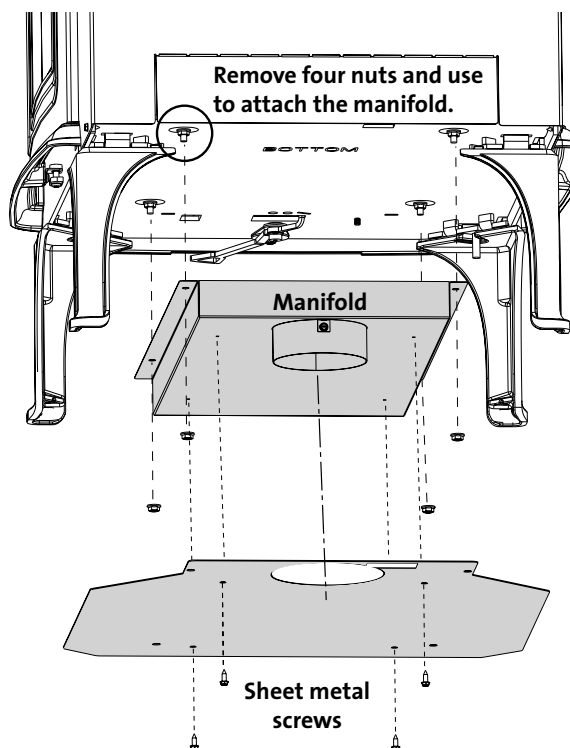

Figure 25. Outside Air Adaptor installation.
1. **Remove Bottom Heat Shield:** Use the 10 mm socket driver or wrench to remove the four nuts and the Bottom Heat Shield from the studs in the stove bottom as shown in fig. 25. Also remove the four remaining spacer nuts from the studs.